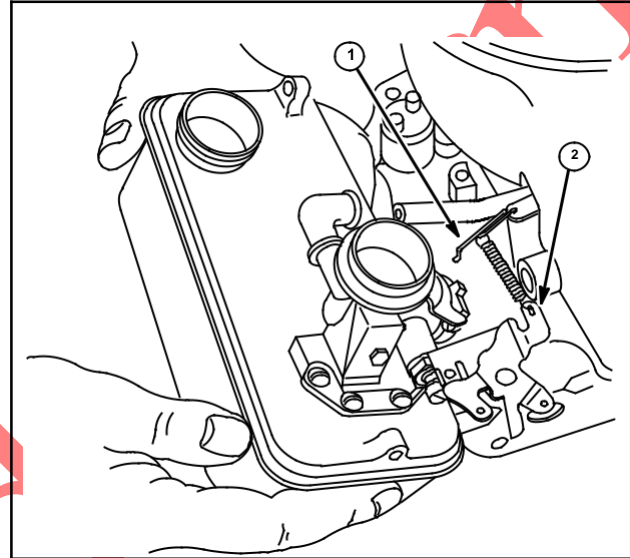

Fig. 14
Remove Carburetor and Fuel Tank Pneumatic Governor (Figs. 14 & 15)
3. This will leave governor link (1) and governor spring connected to governor blade and control lever (2), Fig. 14.